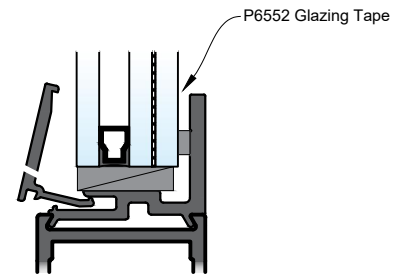

Fig. 20.2
- J. Install vertical glass stops first by sliding the leg of E6523 or E6533 into the glazing gutter. **SEE Fig. 20.2**